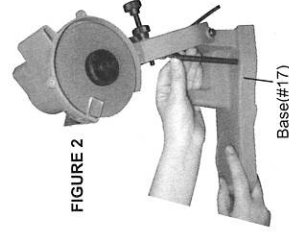

FIGURE 2
2. Bolt (bolts not included) the unit directly to the workbench through the two 1/4" holes on the **base (#17)**. The workbench must have a solid surface capable of supporting the weight of this sharpener, the work-piece and assorted tools. See **FIGURE 2**.